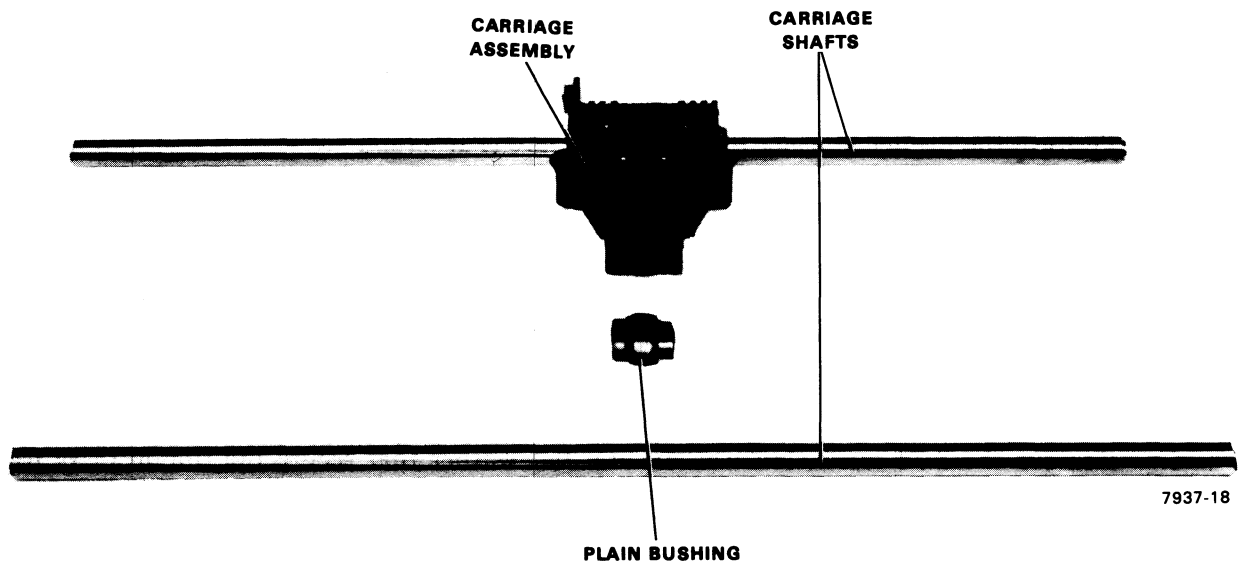

Figure 7-12 Plain Bushing and Spring Replacement
3. Remove the plain bushing (Figure 7-12).
3. Insert the plain bushing into the carriage assembly (Figure 7-12).